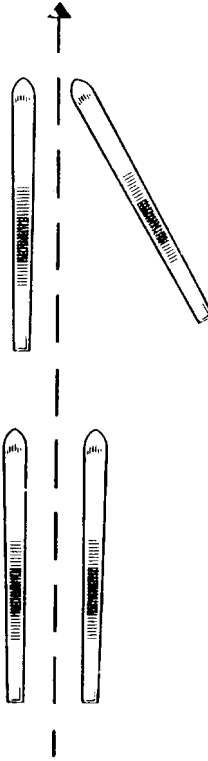

Figure 5-15 The Half Snowplow
3. Half Snowplow. This is used in confined areas and while traversing. Only the downhill ski is moved into the snowplow position. Braking action is controlled by the amount of weight placed on the downhill ski (see Figure 5-15).